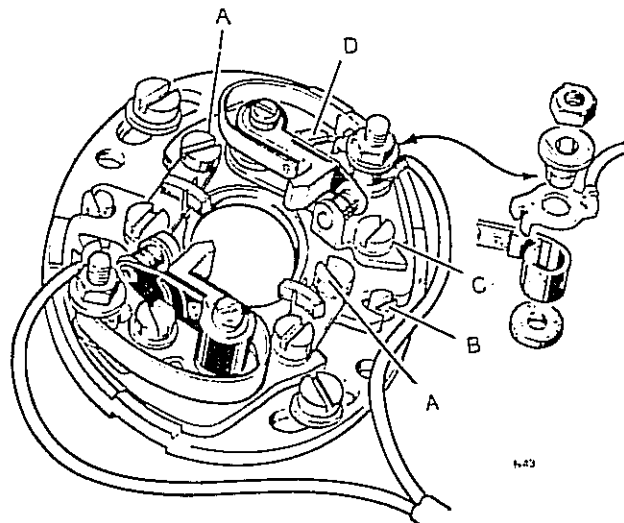

Fig. C50 Lucas contact breaker
11 Using the same technique, check that the contact breaker points open at  $28^\circ$  B.T.D.C. on the firing stroke for the second cylinder. If incorrect, make adjustment by movement of the secondary backplate. To do so, slacken screws (A) in *Fig. C50* and use the eccentric headed adjusting screws (B) to move the mounting plate. When timing is correct, re-secure the screws (A).
- 8 If timing is incorrect for the left cylinder, correct by slackening off the clamping screw for the secondary backplate for this set of points then use the eccentric headed adjusting screw to move the secondary backplate (see *Fig. C50*—secondary backplate screws are marked "A" and eccentric screws are marked "B"). Recheck timing with the stroboscope and when correct, secure the screws "A".
The Lucas 6 CA contact breaker was fitted to Commandos produced prior to 1973. All 1973 750's and all 850's have the Lucas 10 CA contact breaker assembly. Both systems have a separate and independently adjustable contact set for each cylinder, see Fig. C50. Each contact set is mounted on its own crescent-shaped assembly plate that is fixed to the circular base plate by two screws (A). When these screws are loosened, the assembly plate can be moved in relation to the ignition cam (and the base plate) by the eccentric screw (B). This permits a very accurate setting of ignition timing for each cylinder.